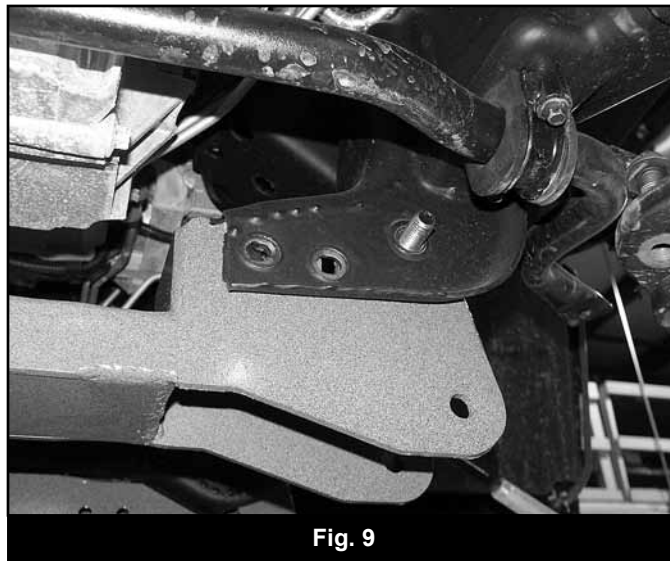

Fig. 9
17. Install the new rear crossmember (02177) with the OE lower control arm bolts, nuts and washers. Also fasten the passenger's side of the crossmember to the two original crossmember mounting holes with the OE hardware (Fig 9). Leave hardware loose.